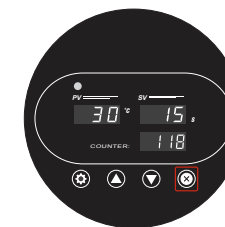

Fig. 10
- Short Press the (X) button on the control panel (Fig. 10). The control panel starts showing a countdown. Tip: Long press (X) to clear counter.